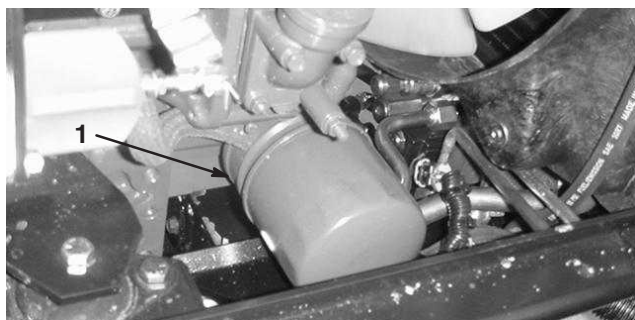

Figure 48
2. Remove the oil filter (Fig. 48). Apply a light coat of clean oil to the new filter seal before screwing it on. **Do not overtighten.**